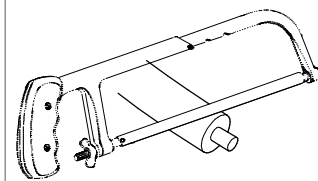

Fig. 27
- Cut the excessive part. fig. 27.